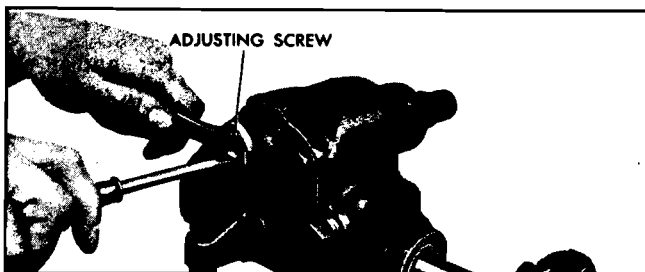

Fig. 9-46 Overcenter or Pitman Shaft Adjustment
2. Loosen pitman shaft adjusting screw lock nut and back off adjusting screw a few turns (Fig. 9-46).